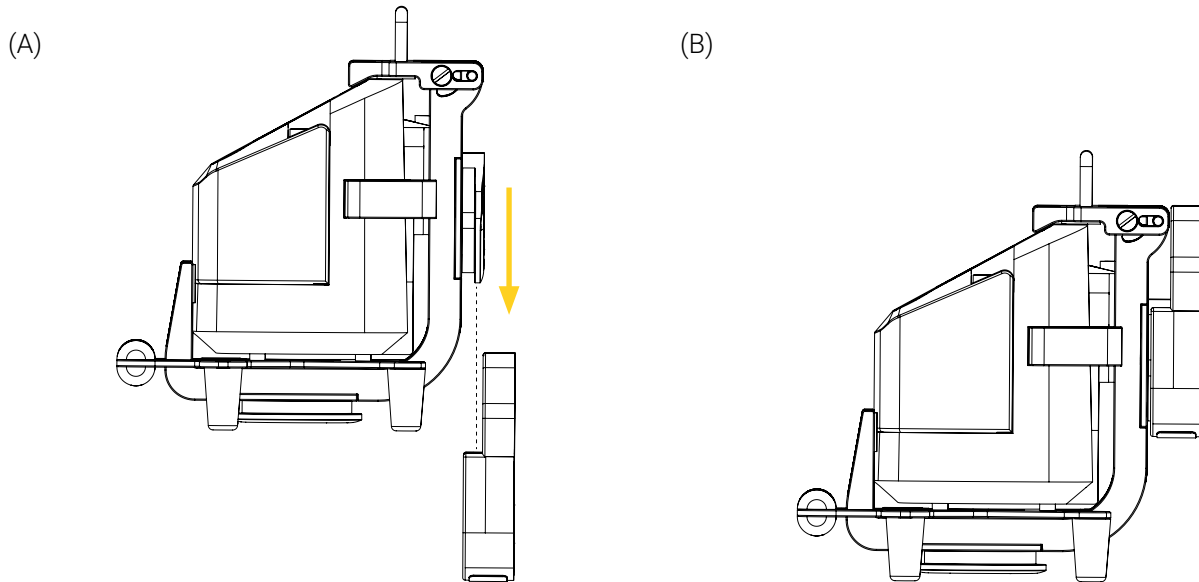
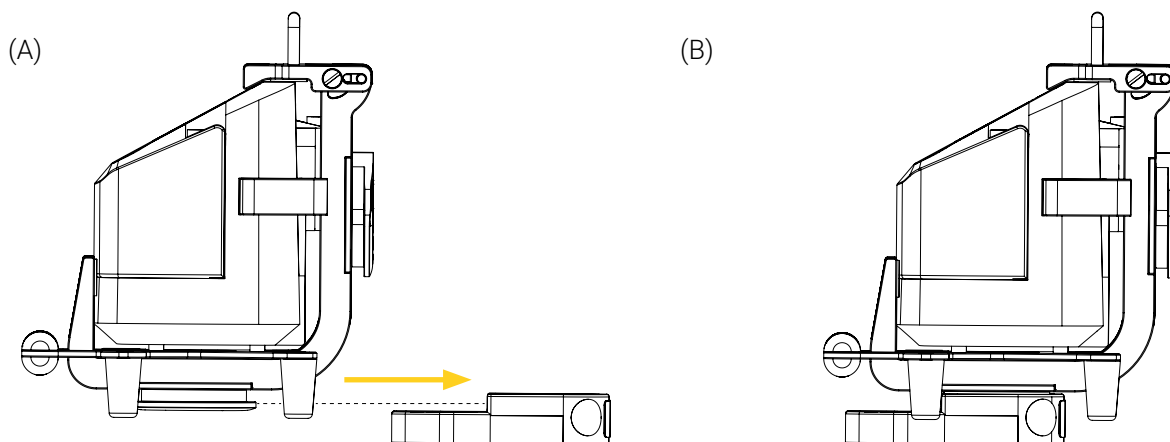

Figure 11: Installing the Bracket Pro Serie 61 – FL vertically in a Micro Base
Figure 12: Installing the Bracket Pro Serie 61 – FL horizontally in a Micro Base
1. Align and insert the back disc of the support bracket vertically (Figure 11) or bottom disc of the support bracket horizontally (Figure 12) in the Micro Base, paying close attention not to wedge the tubing of the medical device.